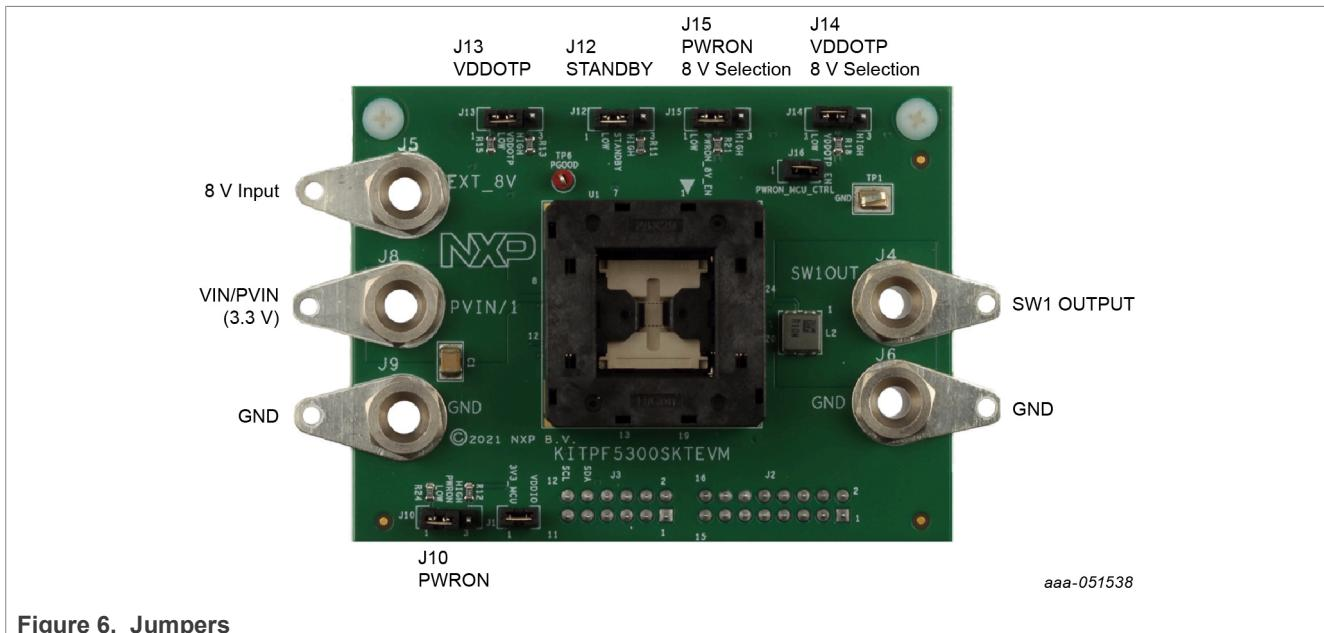

Figure 6. Jumpers
1. Make sure that the board has the right jumper configuration per Table 1 and Figure 6.